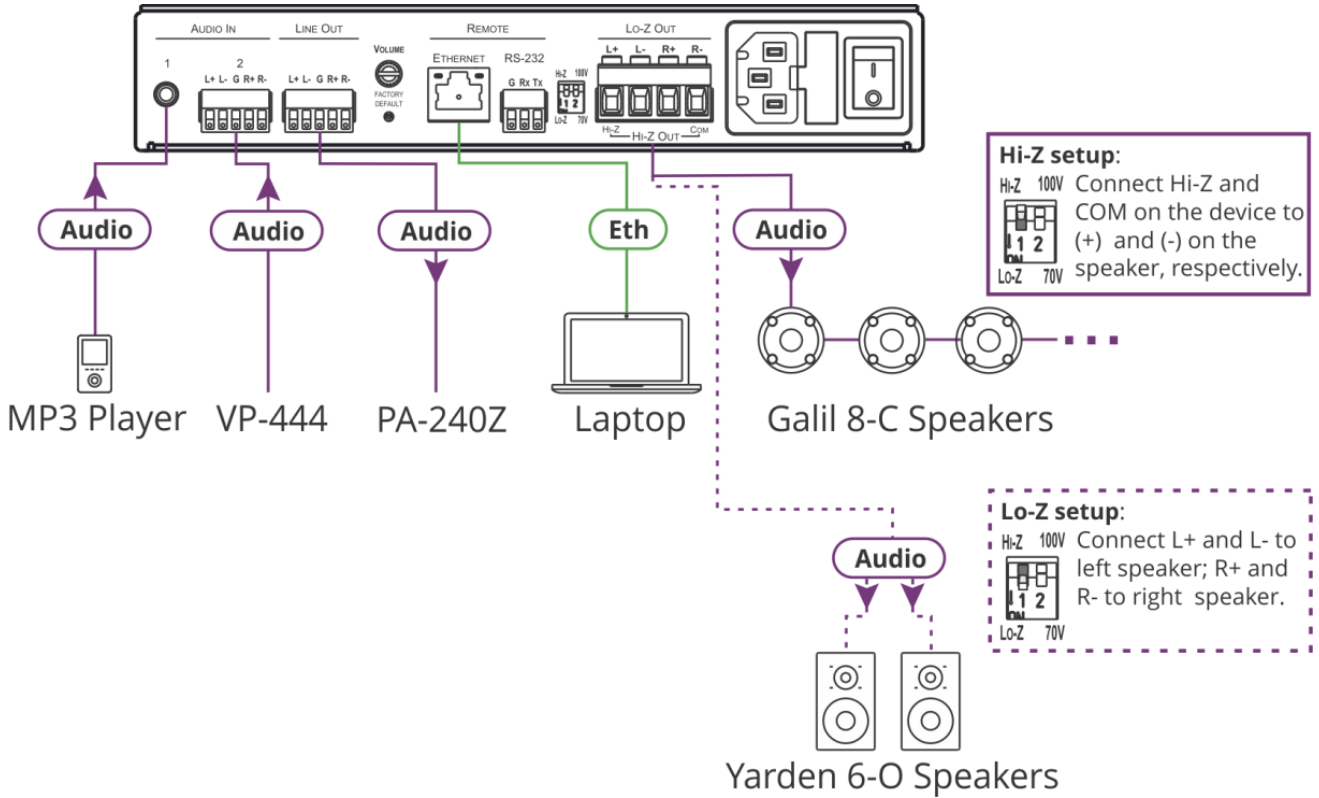

Figure 4: Connecting to the PA-240Z Rear Panel
To connect the PA-240Z as illustrated in the example in Figure 4:
6. Connect the power cord (not shown in Figure 4).